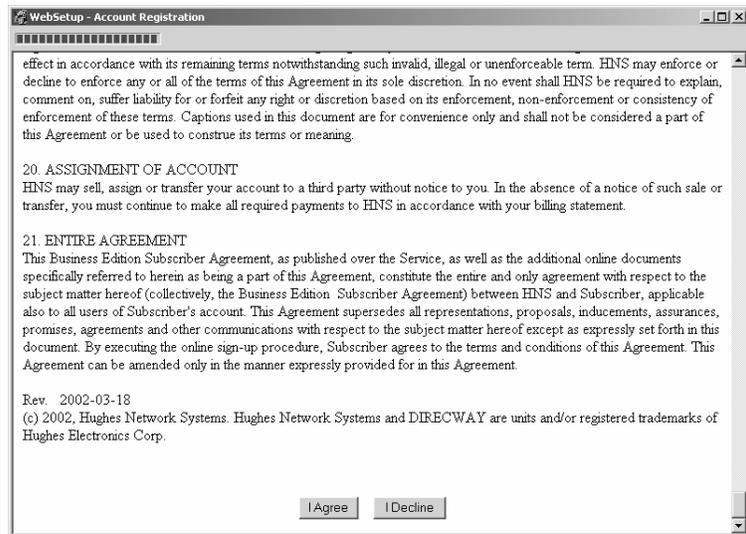

Figure 49: Accepting the subscriber agreement
6. Ask the customer to review and accept the subscriber agreement shown in Figure 49.